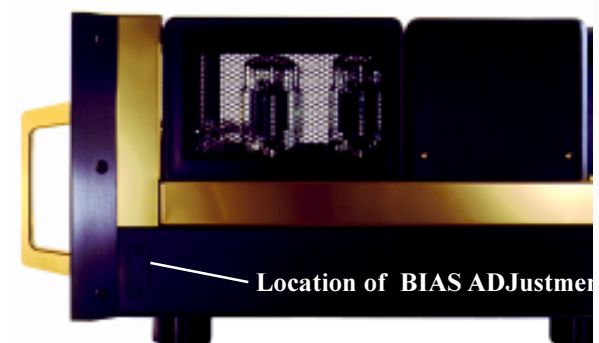

Figure 15
*Note: Figure 15 shows the location of the BIAS ADJustments for the Right Channel, which are located on the right side of the MC2000. The BIAS ADJustments for the Left Channel are located on the left side of the MC2000, in the same location.*